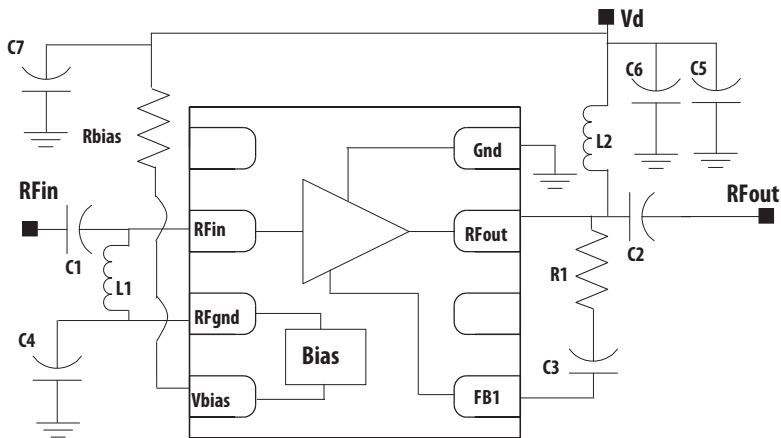

Figure 30. Demo Board Schematic.
- List 3 – Demo Board Component values for Demo board Schematic of Fig. 30.